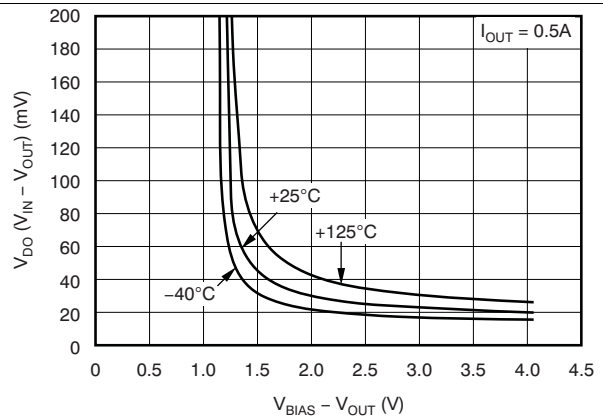

Figure 6. Dropout Voltage vs $(V_{BIAS} - V_{OUT})$ and Temperature (T_J)
(1) Adjustable devices tested at 0.8 V; resistor tolerance is not taken into account.
(2) Dropout is defined as the voltage from V_{IN} to V_{OUT} when V_{OUT} is 3% below nominal.
(3) 1.62 V is a test condition of this device and can be adjusted by referring to Figure 6.
(1) 1.62 V is a test condition of this device and can be adjusted by referring to Figure 6.